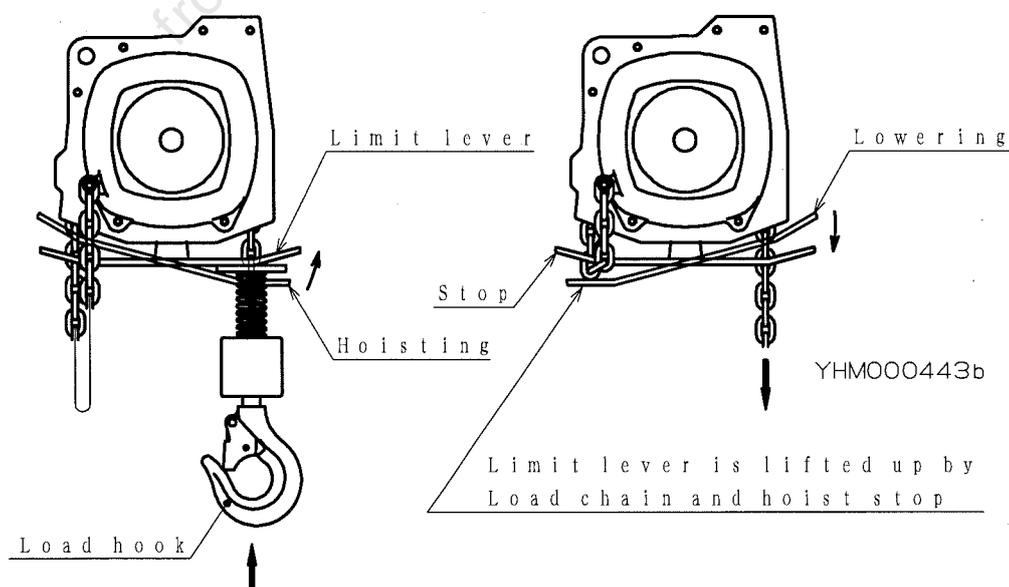

Fig. 2
5.3 Hoisting and Lowering Limit Switches (See Fig. 2)
Ensure these operations are carefully carried out (See Fig.2).